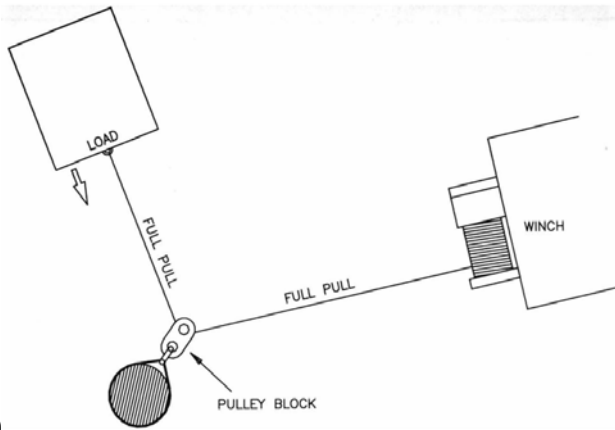

Figure 20
4. Figure 20 illustrate the use of a pulley block to change the direction of the pull. Mechanical advantage can be obtained by attaching a pulley block to the nylon sling with a shackle and running the wire rope to the anchor point.